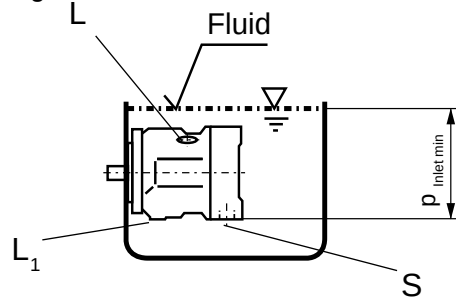

Fig. 3
a) If the minimum fluid level is above the top of the pump leave ports "L", "L₁" and "S" open (see Fig. 3)